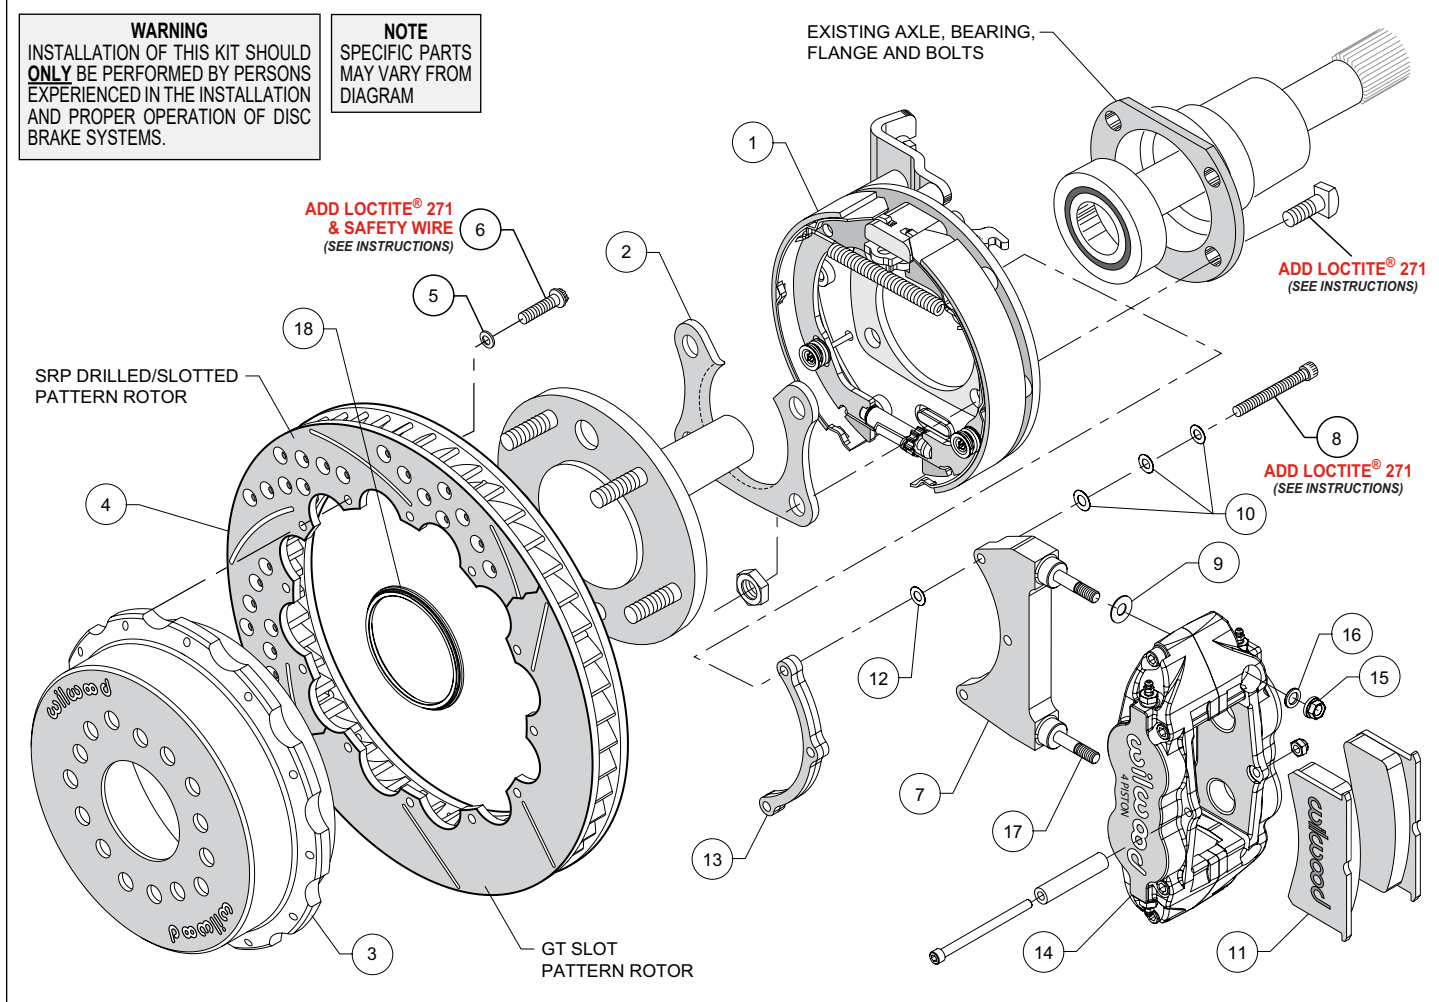
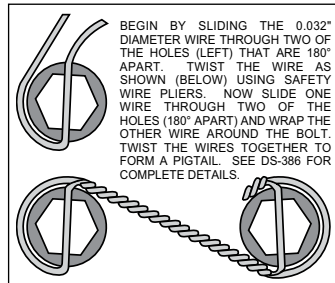

Figure 1. Typical Installation Configuration
Figure 5. Safety Wire Diagram
NOTE: Numbers in parenthesis refer to the parts list and Figure 1 on the preceding pages.
- Orient the bracket assembly (1) as shown in Figure 1 and Photo 1 and slide it onto the axle. Insert the axle and bracket into the axle housing. Ensure that the bracket assembly backing plate fits flush against the axle housing flange.
- Install the bearing retainer (2) with the opening pointing upward and the lip facing inward (toward the bearing), as shown in Figures 1 and 4, and Photo 2. Secure retainer and bracket assembly to the axle housing flange using the Original Equipment Manufacturer (OEM) bolts, washers, and nuts, Figure 1. Apply red *Loctite*® 271 to the OEM bolt threads and torque to OEM specifications.
NOTE: Please reference the caution statement at the beginning of the assembly instructions. The caliper mounting bracket (7) should initially be installed with clean, dry threads on the mounting bolts. Orient the bracket as shown in Figure 1 and Photo 3, and install
using bolts (8) and three flat washers (10). Initially place one .015" shim washer (12) on each bolt between the bracket (7) and spacer (13), Figure 1. Temporarily tighten the mounting bolts. **NOTE: End of bolt should not exceed inside face of insert. The bracket must tighten squarely against the back side of the bracket kit assembly (1).** Later, after the caliper alignment has been checked, the mount bolts will be secured using red *Loctite*®.
- Orient the rotor (4) and the hat (3) as shown in Figure 1 and Photo 4. Attach rotor to hat using bolts (6) and washers (5). Apply red *Loctite*® 271 to the bolt threads and torque to 155 **in-lb** using a criss-cross pattern. For an added measure of security, the bolts may be safety wired using standard 0.032 inch diameter stainless steel safety wire as shown in Figure 5. Please refer to Wilwood's data sheet DS-386 (available at www.wilwood.com/Pdf/DataSheets/ds386.pdf) for complete safety wire installation instructions.
- Slide the rotor registration adapter (18) onto the axle register on the axle flange with the smaller O.D. facing toward the rotor/hat (3/4), Photo 5. Align the hole pattern in the hat with the stud pattern on the axle flange and slide into place, Figure 1 and Photo 6. **NOTE: The rotor/hat must fit flush against the axle flange or excessive rotor run out may result.** Install three lug nuts (finger tight) to keep the rotor/hat assembly in place while continuing with the installation. **NOTE: Some OEM and after market axles come with stud sizes larger than 0.50" diameter. Verify stud size and have a qualified machine shop drill the bolt circle of the hat/rotor to the correct stud size, if necessary.**